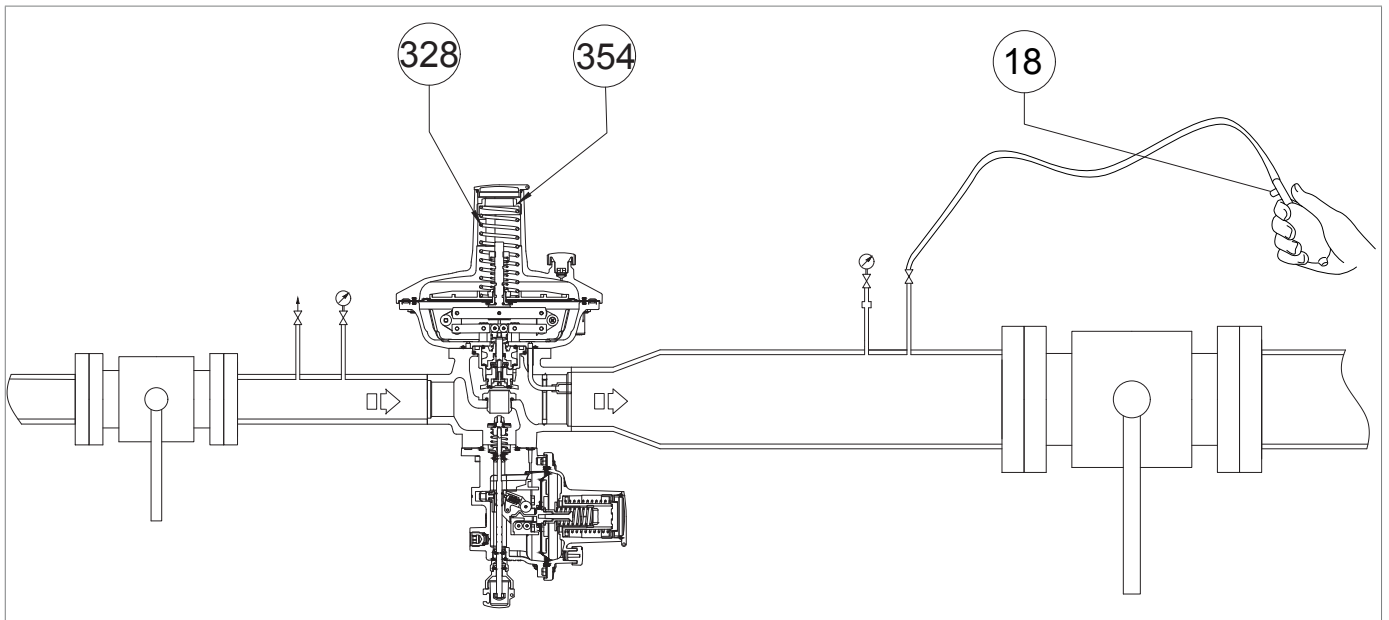
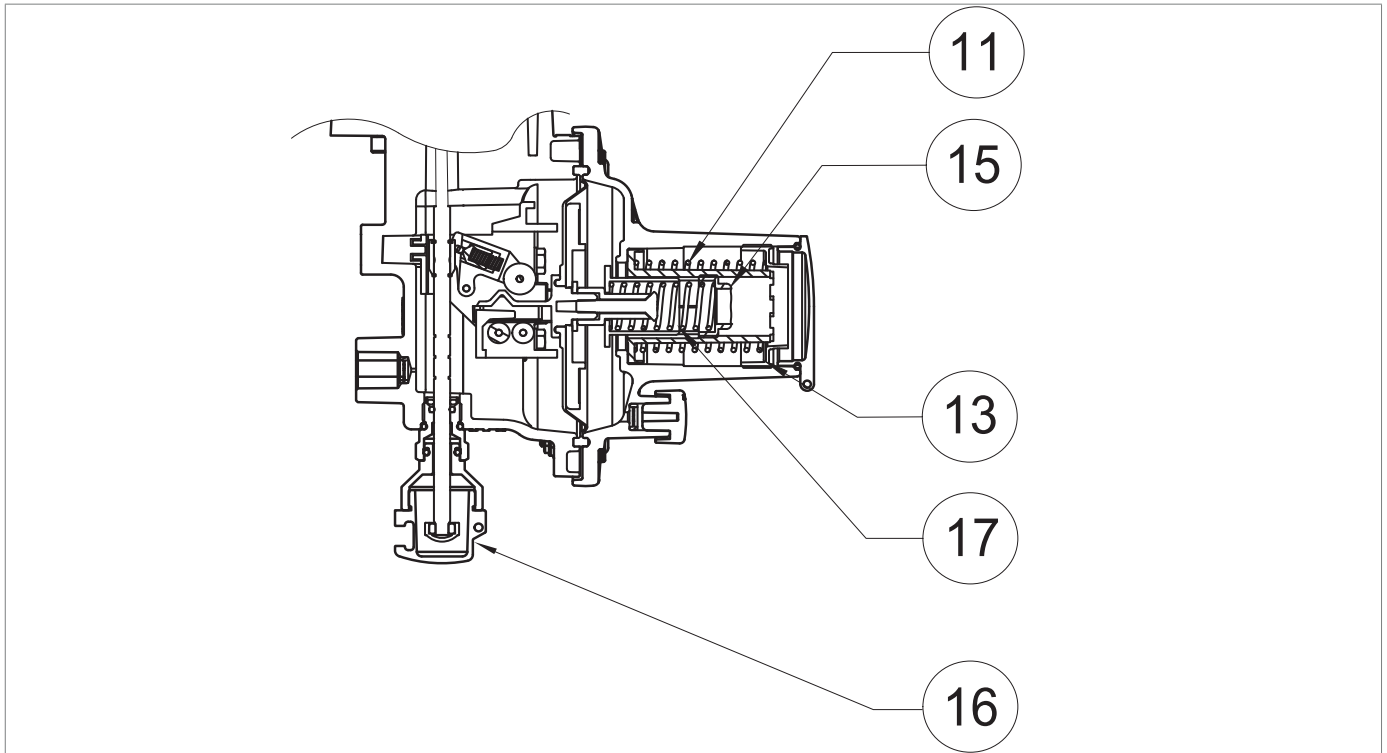
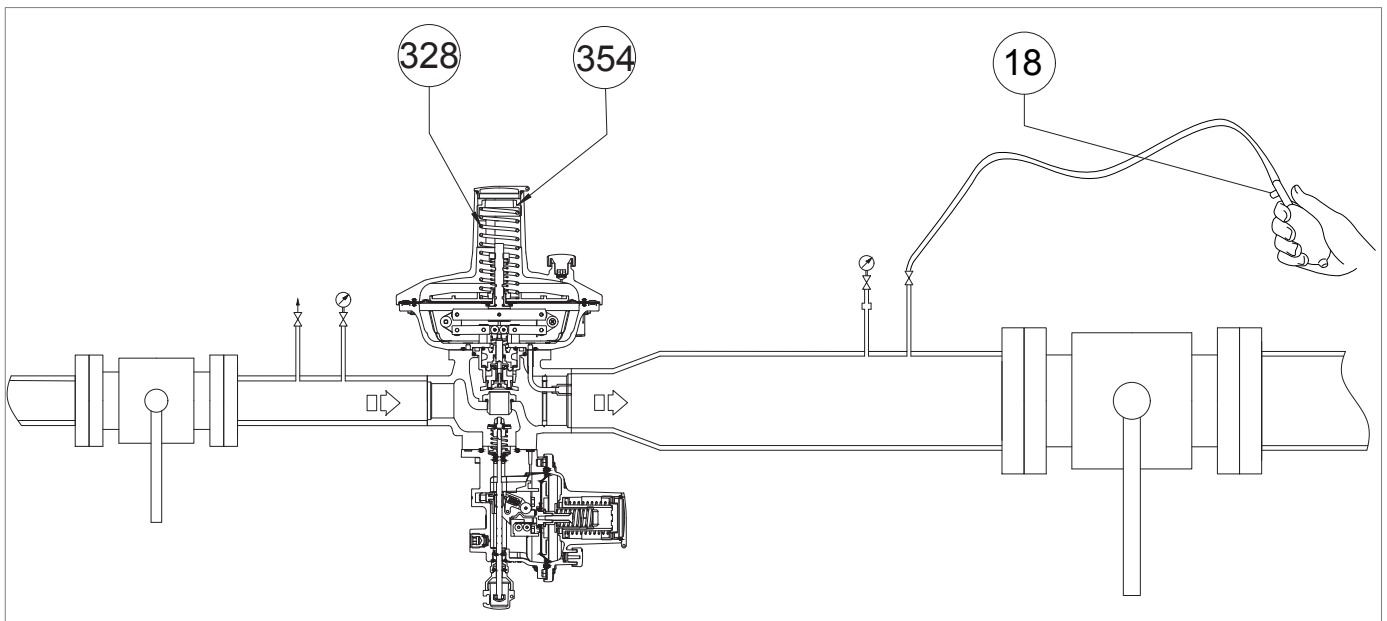

Fig. 8.22. Pressurising with external source for incorporated LA slam-shut valve
Fig. 8.20. Calibration of pressure switch for LA slam-shut valve
Fig. 8.21. Pressurising with external source for incorporated LA slam-shut valve
1	<p>Increase the downstream pressure to the tripping value of the slam-shut valve, connecting an external pressure source to the bleed cock (Fig. 8.20, ref. 6) placed on the downstream pipe, making sure to open an additional bleed cock (Fig. 8.22, ref. 18).</p> <div style="border: 1px solid blue; padding: 5px;"> <p>! NOTICE!</p> <p>Check the pressure referring to the downstream pressure gauge (Fig. 8.20, ref. 5).</p> <p>If the slam-shut valve:</p> <ul style="list-style-type: none"> <li>• trips before the expected pressure value: screw in (clockwise) the adjustment ring nut (13) so as to further compress the spring (11);</li> <li>• does not trip at the expected pressure value: unscrew (anti-clockwise) the adjustment ring nut (13) so as to relieve the spring (11).</li> </ul> </div>
2	Decrease the pressure of the downstream section by opening the additional bleed cock (Fig. 8.22, ref. 18) to bring it up to the calibration value of the main regulator.
3	Close the additional bleed cock (Fig. 8.22, ref. 18).
6	Disconnect the external pressure source from the bleed cock (Fig. 8.20, ref. 6).
1	Partially open the bleed cock (Fig. 8.20, ref. 6) to the atmosphere and keep it open for the next steps.
2	Turn the adjustment ring nut (Fig. 8.20, ref. 3) of the regulator anti-clockwise to decrease the downstream pressure (Pd) to the minimum pressure required for tripping of the slam-shut valve.
3	<p>If necessary, remove the closing cap (Fig. 8.22, ref. 354) together with the adjustment ring nut and remove the regulation spring (Fig. 8.22, ref. 328).</p> <div style="border: 1px solid blue; padding: 5px;"> <p>! NOTICE!</p> <p>Check the tripping pressure value of the slam-shut valve indicated on the downstream pressure gauge (Fig. 8.20, ref. 5).</p> </div>
4	<p>If the slam-shut valve:</p> <ul style="list-style-type: none"> <li>trips before the expected pressure value, unscrew (anticlockwise) the adjustment ring nut (Fig. 8.21, ref. 15), to relieve the spring (Fig. 8.21, ref. 17);</li> <li>does not trip at the expected pressure value, screw in (clockwise) the adjustment ring nut (Fig. 8.21, ref. 15) to further compress the spring (Fig. 8.21, ref. 17).</li> </ul>
5	<p>After having checked that the slam-shut valve trips at the preset value, proceed as follows:</p> <ol style="list-style-type: none"> <li>Close the air vent valve (Fig. 8.20, ref. 6)</li> <li>Position the regulation spring (fig. 8.21, ref. 328), the end cap (Fig. 8.22, ref. 354), the adjustment ring nut (Fig. 8.20, ref. 3)</li> <li>Slowly open the upstream shut-off valve (V1) until the downstream pressure value (Pd) reaches the calibration value of the regulator, referring to the downstream pressure gauge (Fig. 8.20, ref. 5)</li> <li>Close the upstream shut-off valve (V1)</li> <li>Slowly and partially open the air vent valve (Fig. 8.20, ref. 6) to decrease the downstream pressure referring to the downstream pressure gauge (Fig. 8.20, ref. 5) until it reaches the minimum pressure tripping value</li> <li>Check the minimum pressure spring for proper calibration by repeating steps 2-3-4 at least three times</li> <li>Calibrate the main regulator referring to par. "8.5 - Regulator commissioning procedure"</li> </ol>
7	Turn the adjustment ring nut clockwise (Fig. 8.20, ref. 3) to increase the downstream pressure to the regulator's setpoint.
9	Close the bleed cock (Fig. 8.20, ref. 6).